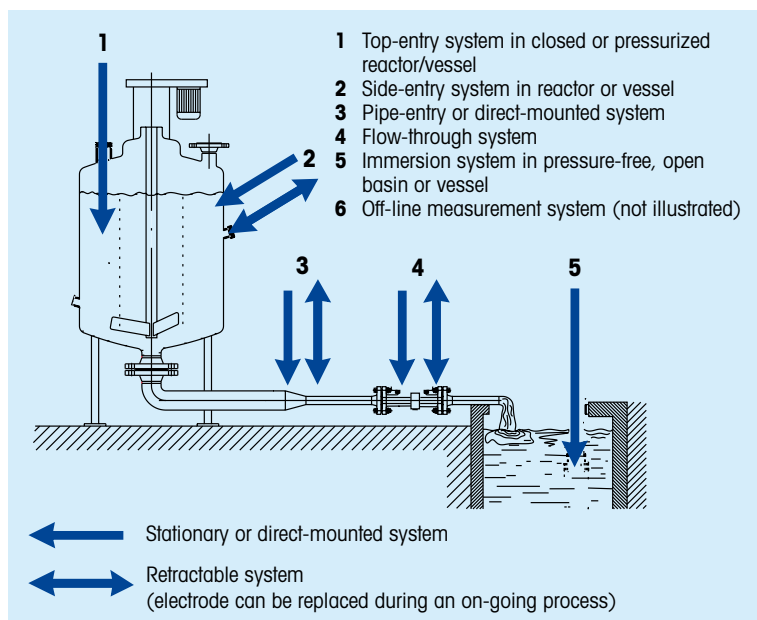

Figure 14 Industrial measuring sites.
**The pH electrode assembly should be mounted in a place where it is easily reached and where defined conditions exists.** Unlike laboratory measurements, industrial measurements are mainly continuous (on-line), see "Figure 14 Industrial measuring sites." on page 23. Usually the process occurs in closed stirring vessels (chemical reactors, bio-reactors). Measurements may, however, also be taken in pipe-lines, basins, or open canals. The process conditions may be very different. In addition to high temperatures and pressures, an electrical current may also have to be considered. An industrial pH electrode assembly consisting of a pH electrode and an electrode housing must be adapted to these circumstances. For industrial processes efficiency is critical. Hence, simple maintenance is of main interest.